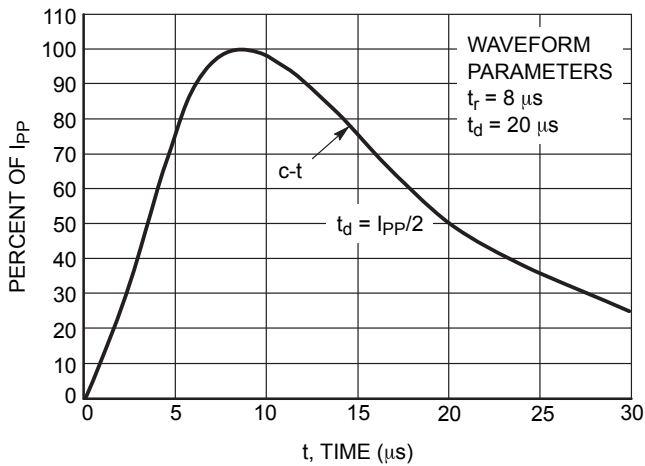

Figure 1. Pulse Waveform
1. Non-repetitive current per Figure 1.